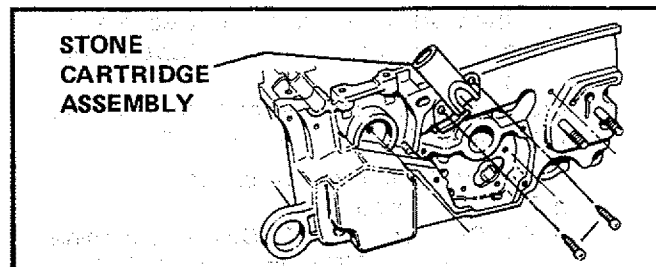

Figure 25
2. Remove the two screws which hold cartridge assembly to crankcase. Figure 25.